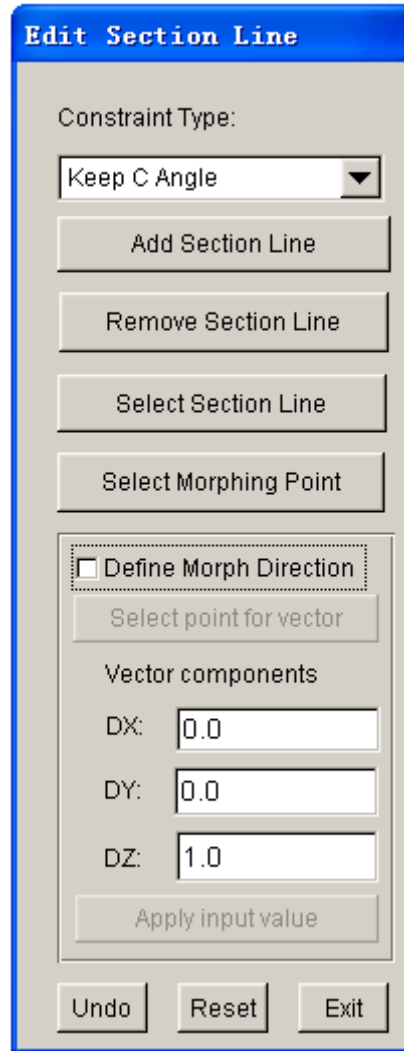

Figure 6.5.4 Section Line Morphing dialog box
- After a surface is selected, the dialog box as illustrated in Figure 6.5.4 is displayed.
- After a surface is selected, the U-V lines are displayed on the surface and a dialog box as illustrated in Figure 6.5.4 is displayed.